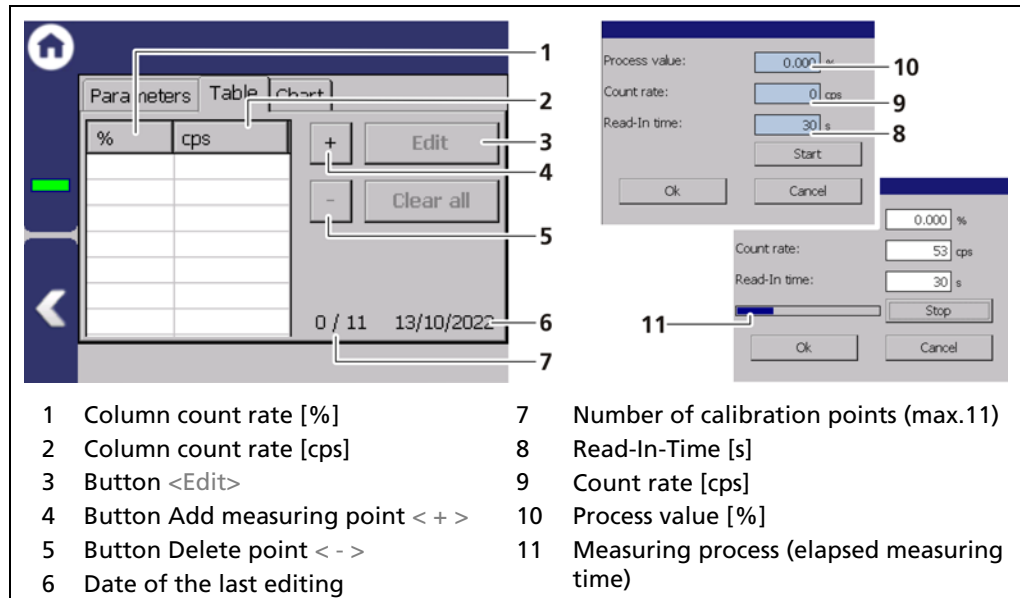

Fig. 70 Calibration parameters for Compensated Level (Table)
- Click on the button < + > (Fig. 70, item 4).
- A window with input fields (Fig. 70, item 8-10) opens.
- Click on the input field "Process value" (Fig. 70, item 10) to open the input field.
- Click on the input field "Read-In-Time" (Fig. 70, item 10) to open the input field.
- The count rate is determined and the elapsed measuring time is shown (Fig. 70, item 11).
- The count rate is transferred to the field "Count Rate" (Fig. 70, item 9) after the measurement time has elapsed.